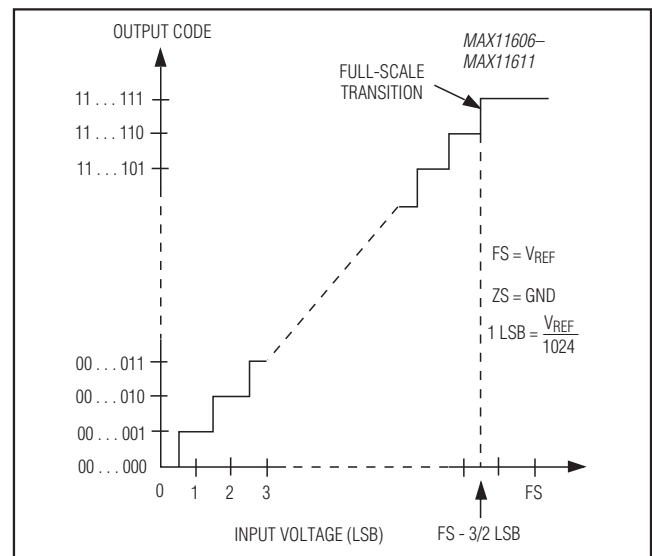
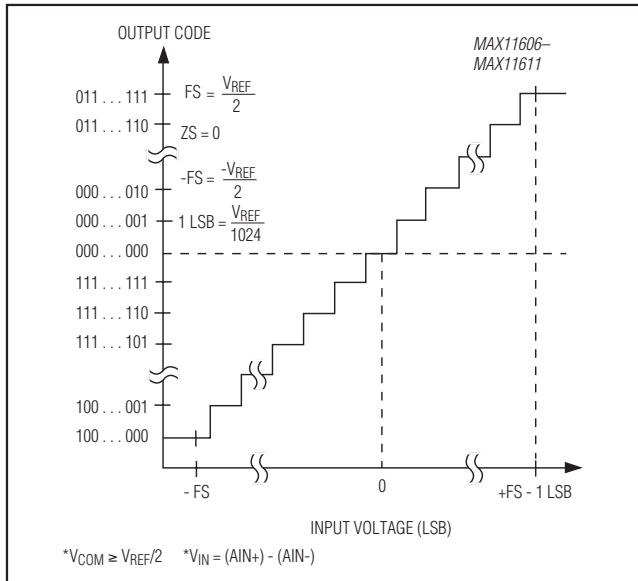

Figure 12. Unipolar Transfer Function
Figure 13. Bipolar Transfer Function
Output data coding for the MAX11606–MAX11611 is binary in unipolar mode and two's complement in bipolar mode with 1LSB = $(V_{REF}/2N)$ where N is the number of bits (10). Code transitions occur halfway between successive-integer LSB values. Figure 12 and Figure 13 show the input/output (I/O) transfer functions for unipolar and bipolar operations, respectively.